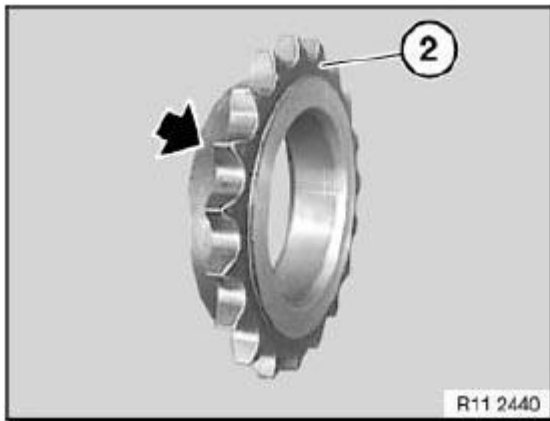

Fig. 700: Sprocket Wheel And Collar
Collar (see Fig. 700) on sprocket wheel (2) points to engine.